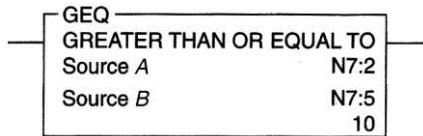

Figure 10-19 Instruction for question 31.
31. What value(s) stored in N7:2 of Figure 10-19 would make this instruction true? 31._____